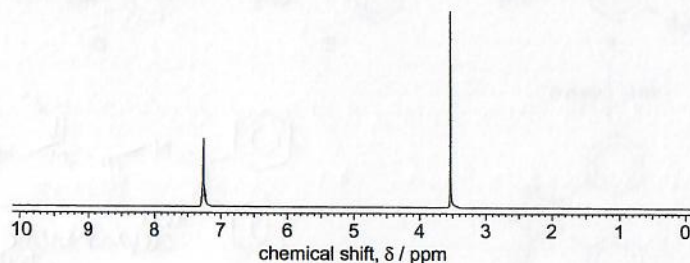

Fig. 3.1
- (ii) State and explain which isomer of indanone will give the ^1H NMR spectrum in Fig. 3.1.